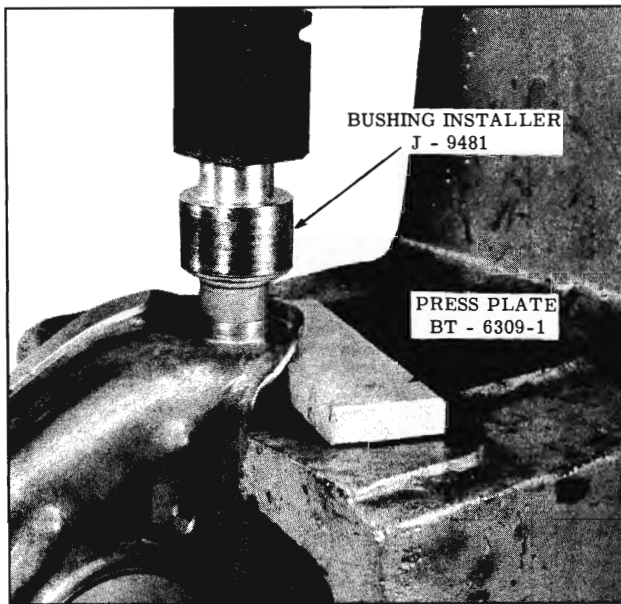

Fig. 5-25 Installing Pivot Shaft Bushing
8. To install bushings, place pivot shaft in control arm and press new bushing into control arm and over end of pivot shaft. (Fig. 5-25)